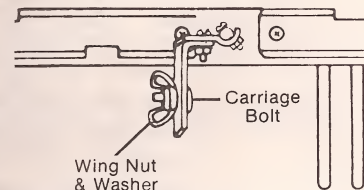
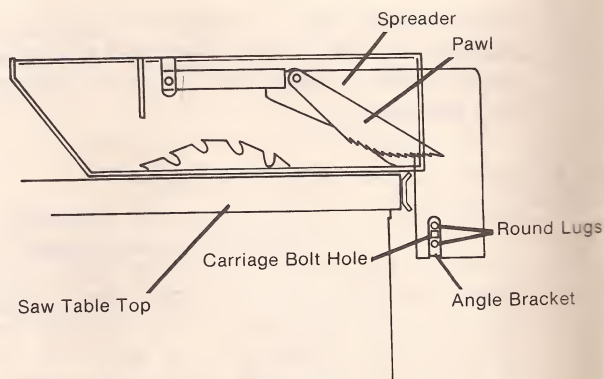

Figure 26
Figure 27
- Remove the wing nut and washer (shown in **figure 26**) from the bracket and install the Spreader and Guard Assembly over the Carriage Bolt so that the two round lugs on the Angle Bracket fit into the vertical slot on the Spreader as shown in **figure 27**. When installing the Spreader and Guard Assembly, make certain that the sides of the plastic guard are positioned on both sides of the saw blade.